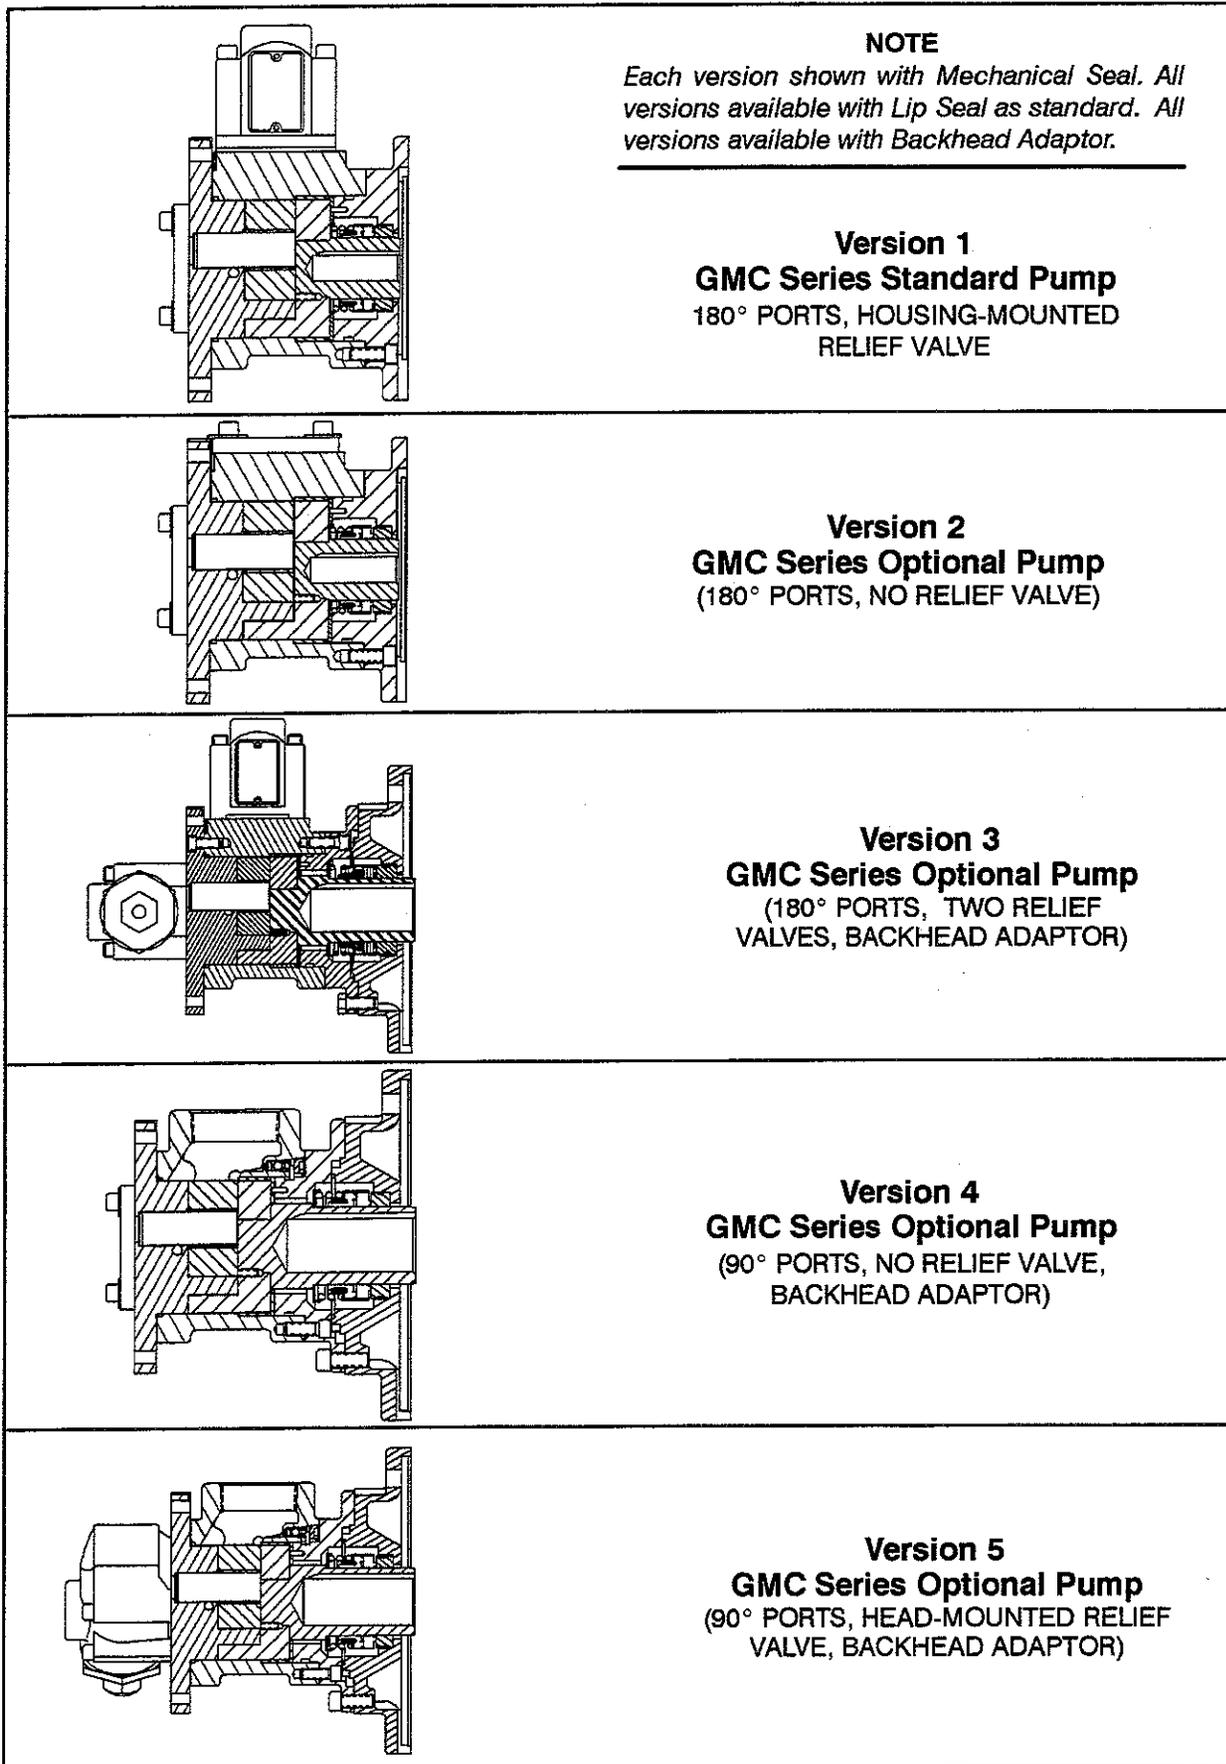

Figure E-2. Assembled GMC Pump Models
*Part or all of the seal assembly (5) will be removed with the backhead. If your pump is fitted with an optional adaptor (Figure E-2, Versions 3, 4 and 5), the seal parts will be removed with the adaptor. Remove the backhead (or adaptor) as follows, check the **Parts List** furnished with your pump to identify the seal, then refer to **Seal Appendix, Section F** for removal of the seal and related components.*
If the pump is fitted with an optional adaptor (see Figure E-2, Versions 3, 4 and 5), remove the hard-